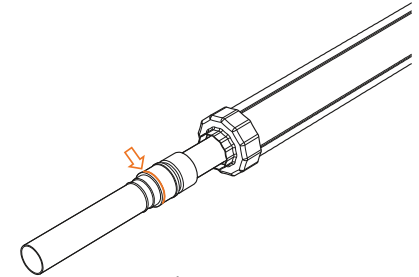

Fig. B10.2.9
10. Once the compression process is completed, check to ensure that there are no gaps between the shoulder of the inner coupler and the outer sleeve (Fig. B10.2.9).